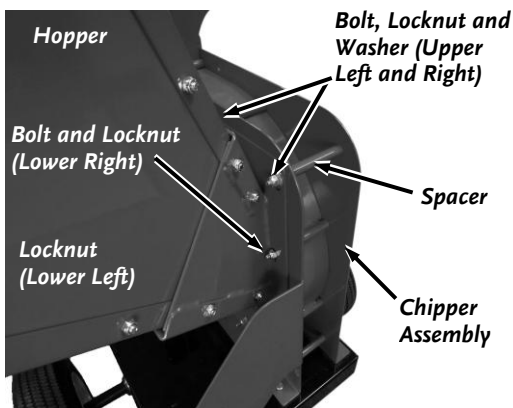

Figure 8a: Pro-475
2. Position the Hopper Assembly onto the Housing Support and Stud (**Figure 8a**) and secure the upper Bolts to the Hopper Assembly with two 5/16-18 Locknuts and Washers.